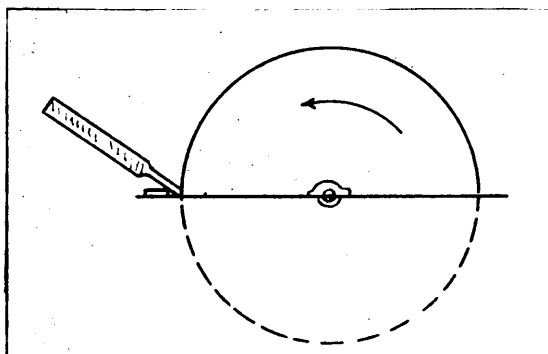

Figure 1.
1. Place pointed edge of an old file on a rest. (Figure 1). Turn grinding wheel. The file is used only when the stone is in a bad